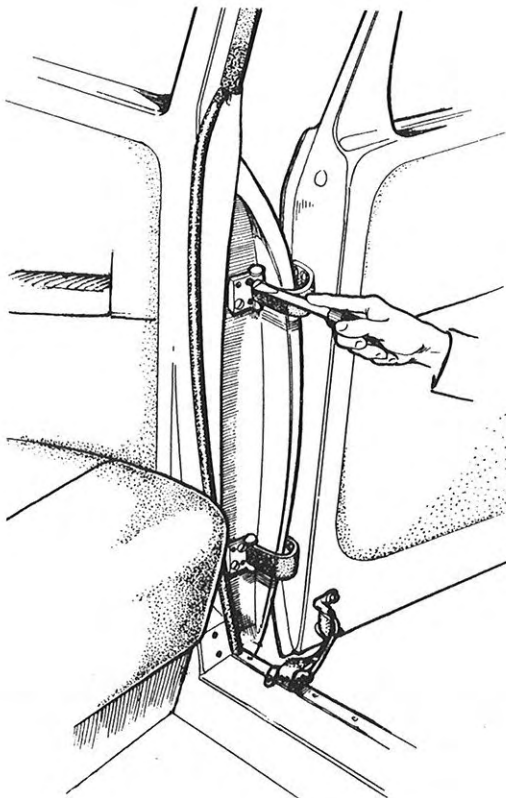

Fig. 7. Installation of door
2. Attach each hinge with two screws, see Fig. 7.